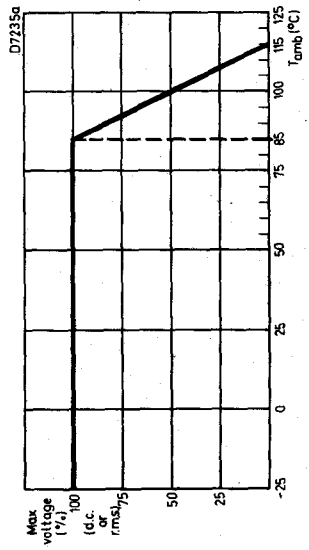

Fig. 2
6) The d.c. working voltage is the average value of the applied working voltage. For ambient temperatures higher than 85 °C the maximum values must be derated as indicated in Fig. 2.